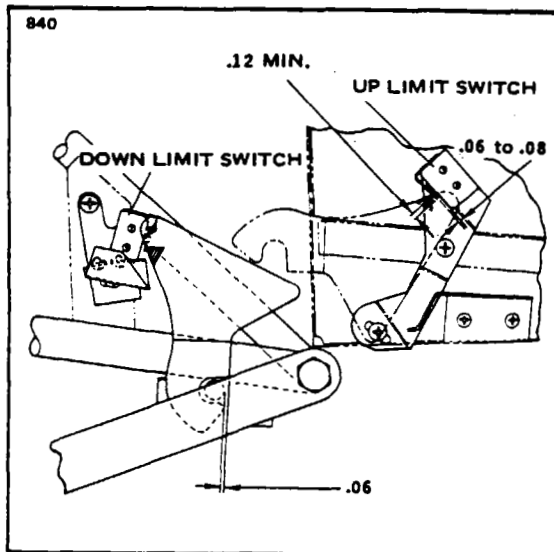

Figure 7-10. Adjustment of Nose Gear Limit Switches
7-31. ADJUSTMENT OF NOSE GEAR UP LIMIT SWITCH. The gear up limit switch is mounted on a bracket above the point where the right side of the upper drag link attaches to the engine mount. (Refer to Figure 7-10.)
- e. Loosen the lower attachment screw of the switch bracket and rotate the switch toward the actuator tang until the .06 to .08 measurement (noted in Figure 7-10) is obtained. Switch tang should be actuated, a minimum of .12 inches in from the lower end of the tang.
- b. The down limit switch should actuate only after the leading edge of the downlock hook, when moving to the locked position, has passed the downlock roller by .06 of an inch. (Refer to Figure 7-10.) Position the hook at this location in relation to the roller by moving the actuator piston manually toward the up position. The downlock spring may be disconnected, if desired.